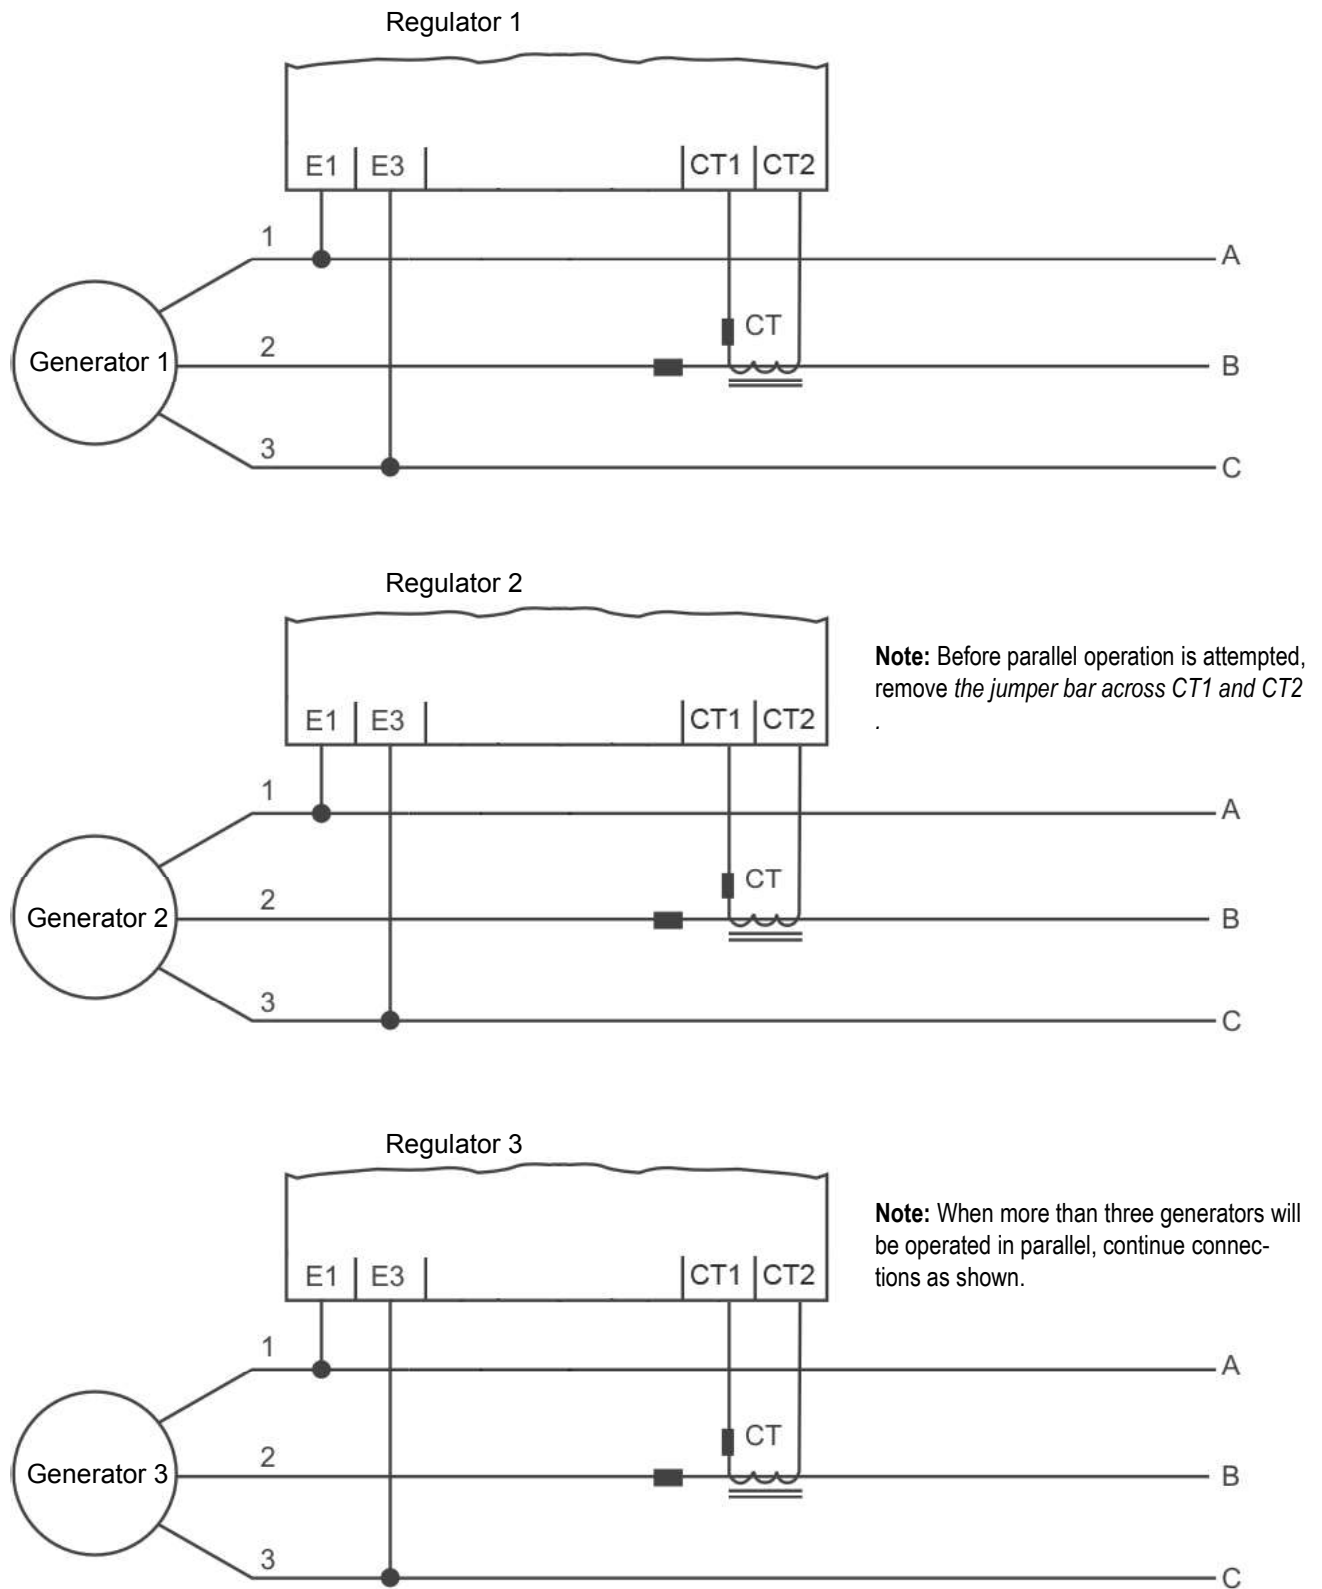

Figure 5: Parallel voltage droop CTs interconnection
**Sensing circuit during parallel generator operation in reactive voltage droop compensation mode:** Generators interconnected as shown in Figure 5 for reactive voltage droop compensation will proportionally share inductive reactive loads during parallel operation by a decrease in generator system voltage.
transformer signal to the regulator sensing voltage must be correct or the systems will not parallel properly. Figures 5 and 6 show the correct polarity for A-B-C (1-2-3) phase rotation. If the phase sequence is not A-B-C (1-2-3), interchange the current transformers secondary leads.
*Reactive voltage droop:* Connect the current transformer to its respective regulator as shown in Figure 5.